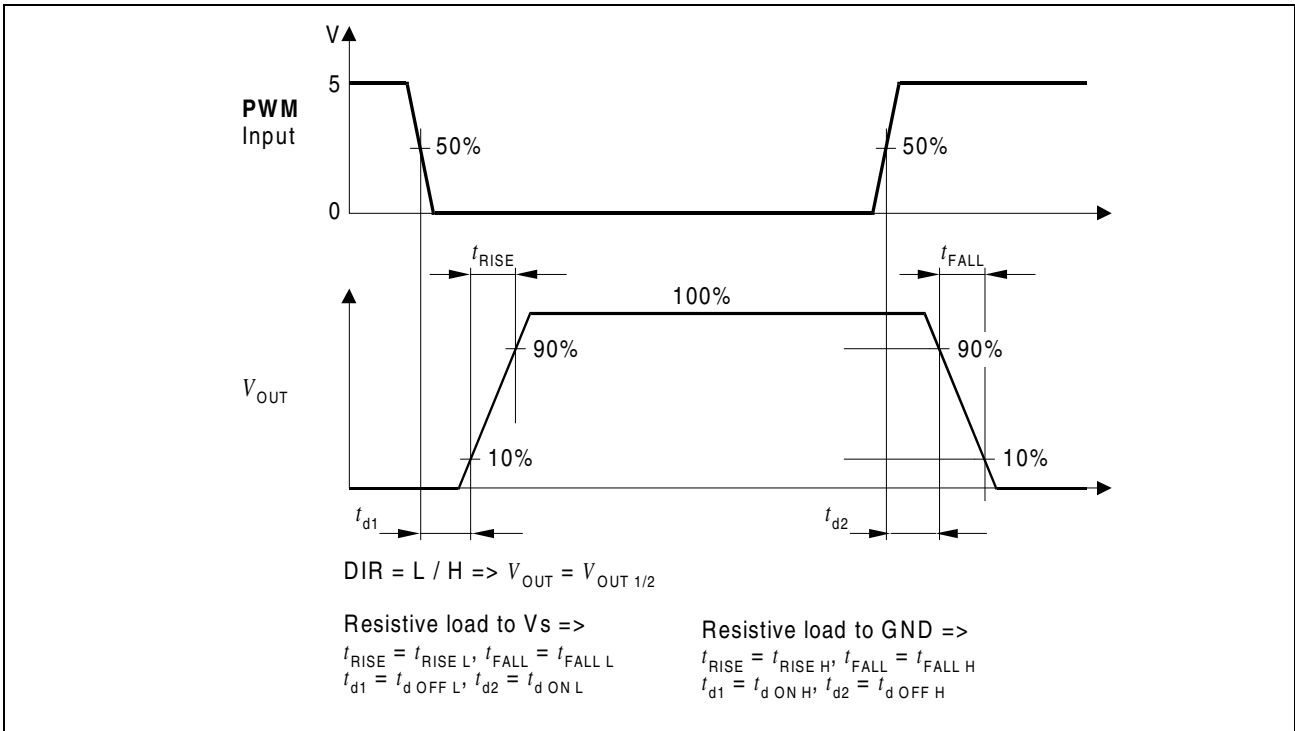

Figure 6 Output Delay and Switching Time Definitions
*Note: For switching time definitions, see **Figure 6**.*